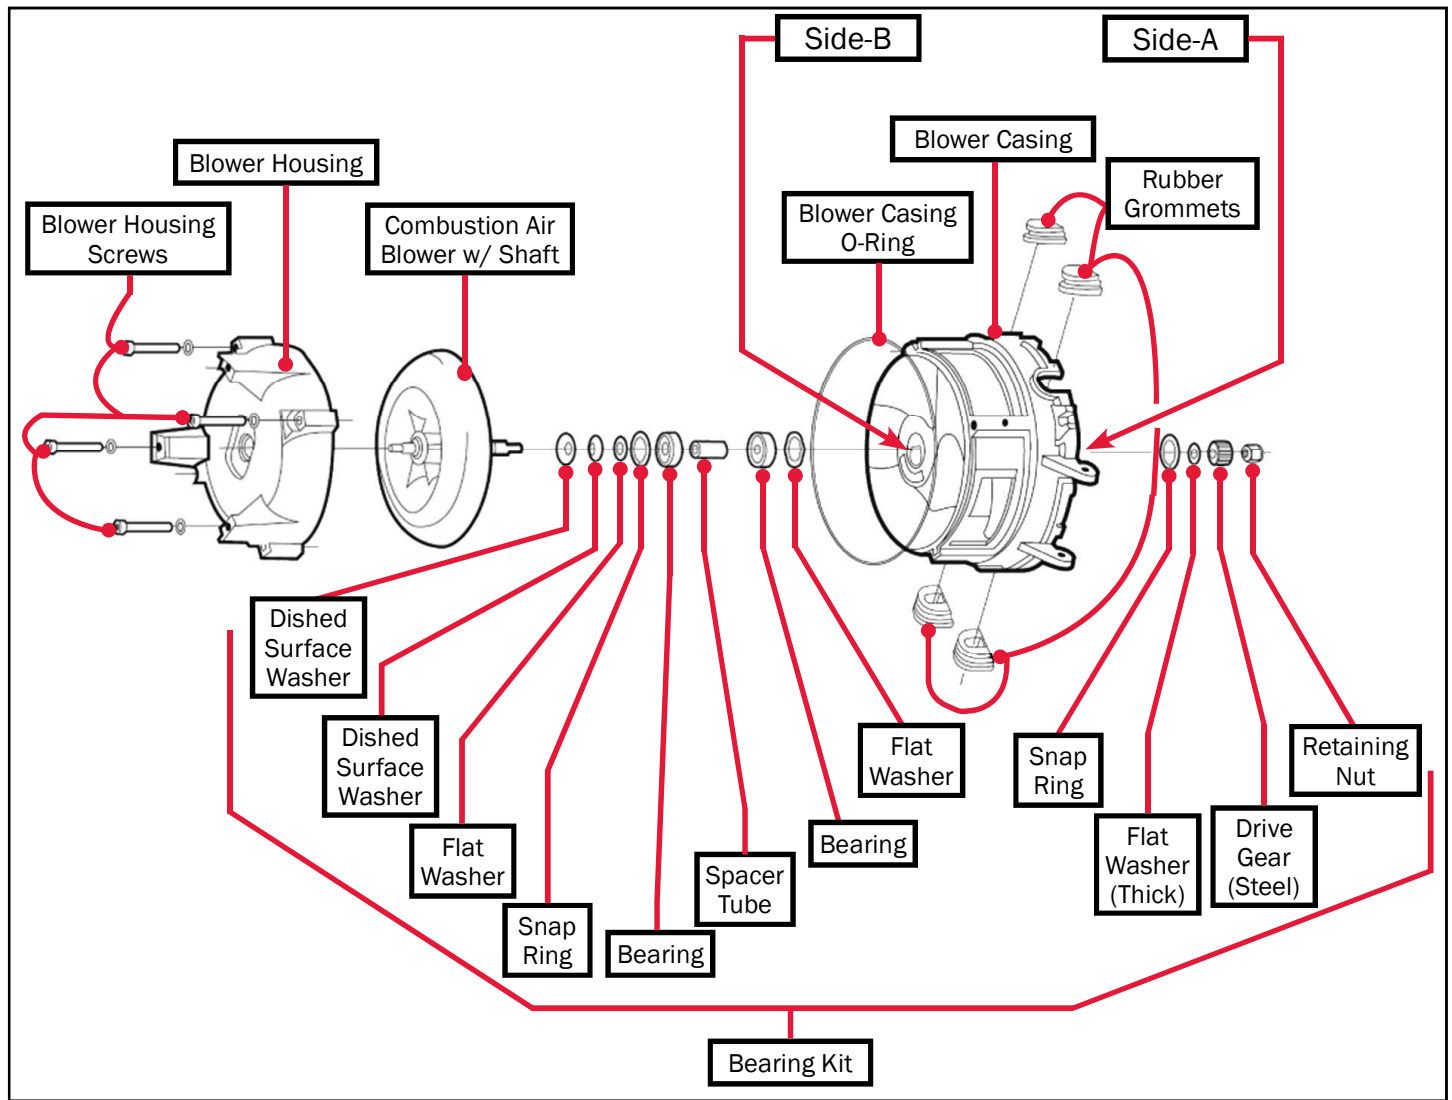

Figure 127b
- Hold side-B (see Figure 127b) of the blower casing and loosen the retaining nut located in side-A of the blower casing. Remove the retaining nut, steel drive gear and thick flat washer from the combustion air blower's shaft. Lightly tap the threaded end of the shaft so that the combustion air blower can be easily removed from the blower casing.